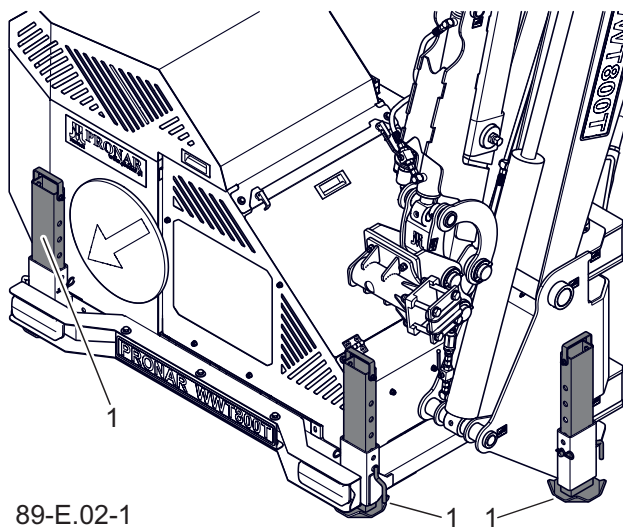

Figure 1.2 Support feet of the multifunction arm
During loading and transportation the multifunction arm should rest on support feet (1) FIGURE 1.2 extended and locked on both sides of the arm at the same height. The multifunction arm should be firmly secured on the transport vehicle platform with belts or chains equipped with a tensioning mechanism. The fastening equipment used must have a valid safety certificate. Exercise due caution when lifting the machine. During reloading work, special care should be taken not to damage the paint coating.